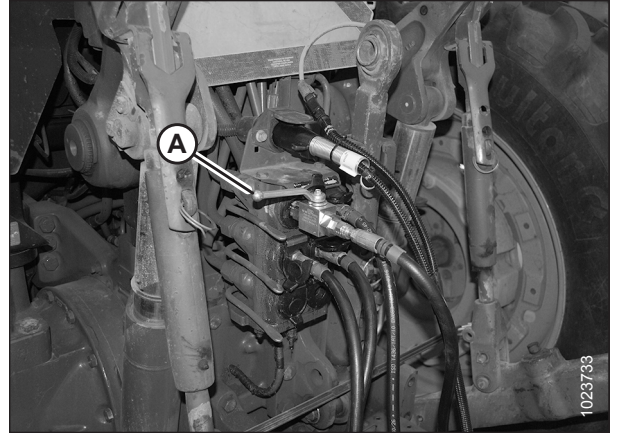
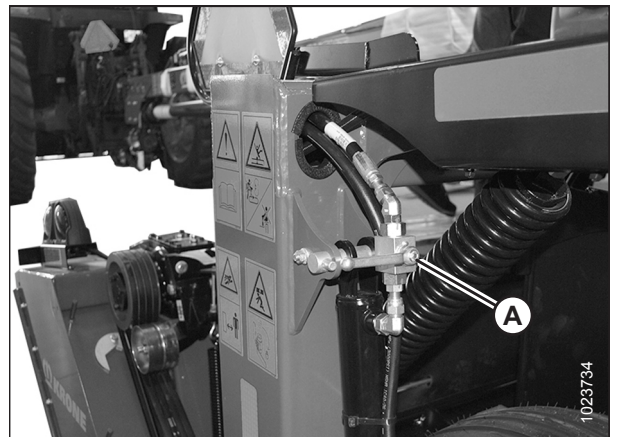

Figure 9.21: Steering Lock-Out Valve
Figure 9.22: Lift Cylinder Lock-Out Valve
11. Close the steering lock-out valve and the two lift cylinder lock-out valves by turning the handles to the closed position. For instructions, refer to Figure 9.21, page 173 and Figure 9.22, page 173.